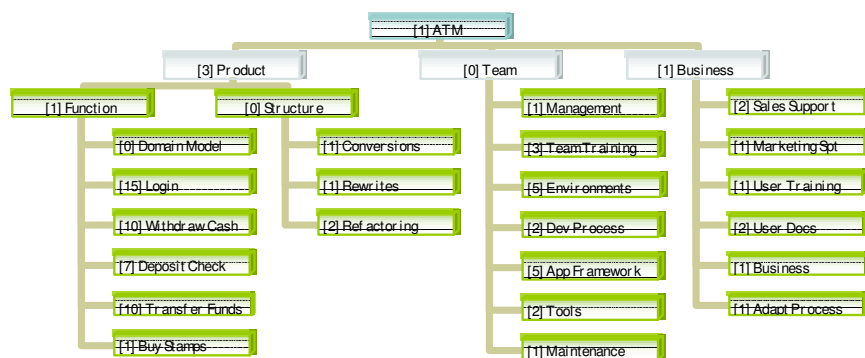

Figure 5: Functional Work Breakdown Structure
- Functional Work Breakdown Structure: This visual representation provides a concise, high-level presentation of the project work items (see Figure 5: Functional Work Breakdown Structure).
Many think of Gantt charts and Microsoft Project Plans when they hear the term Work Breakdown Structure. The visually appealing format pictured below allows anyone to quickly see the salient work required to accomplish the project (Project at a Glance). This sample software project’s WBS looks like the following, representing a fictitious ATM development project (see Figure 5: Functional Work Breakdown Structure).